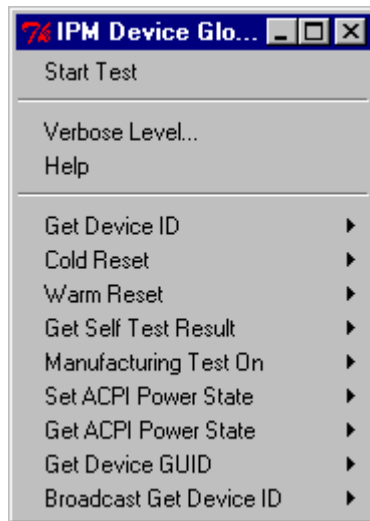

Figure 5-3. IPM Device Global Command Conformance Test Drop-down Menu
3. Select the test group you want to run. A list of the tests in the group appears. Figure 5-3 shows the list of tests for the IPM Device Global Command Conformance Test: